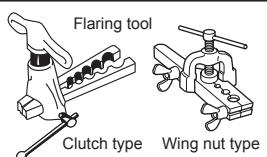

Fig. 4
- When routing the drain piping, make sure that the drain hose (1) is routed as shown. (Fig. 4)
- 4) Flaring work (Fig. 4, 5). Firmly hold copper pipe in the dimension shown in the table. Select A inch (mm) from the table according to the tool you use.